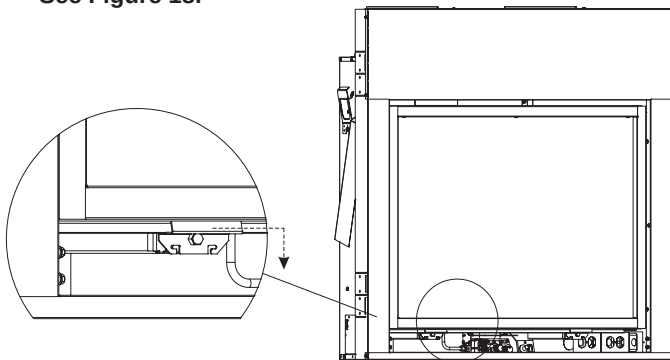

Figure 18
2. Pull latches toward you and down to release. See Figure 18.